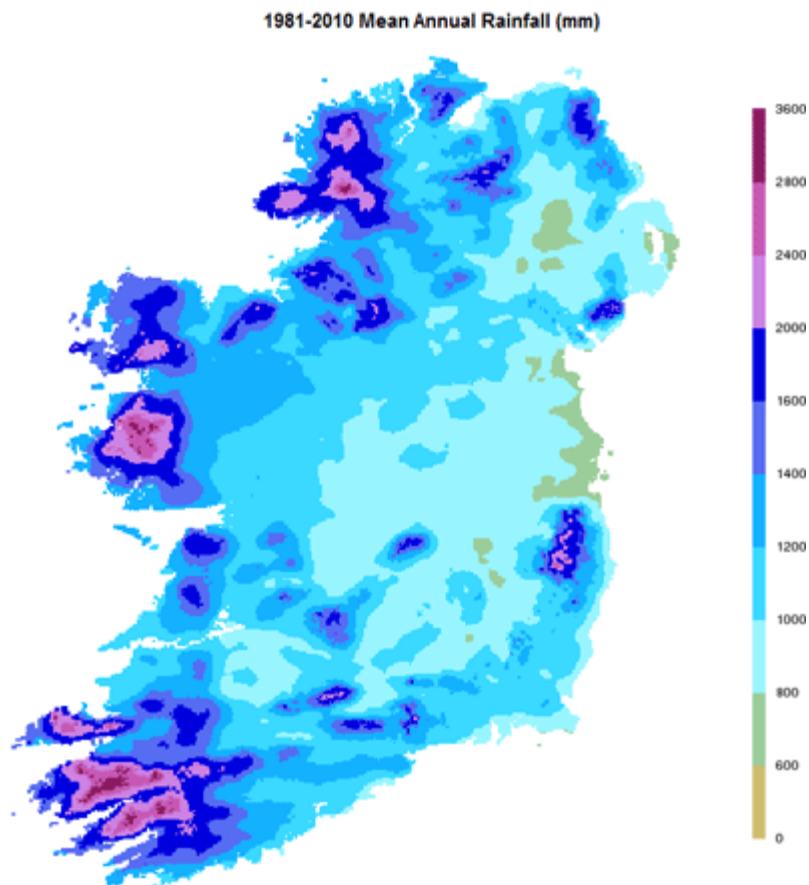

Fig. 2: Rainfall climatology of Ireland.
- As well as distance and the position of mountain ranges, a further consideration might be to ensure reliable coverage in areas where we can expect the most rainfall; see Fig. 2 below from <http://www.met.ie/climate-ireland/rainfall.asp>